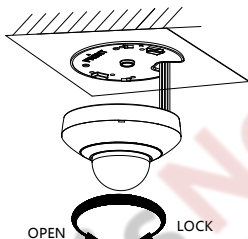

Figure 2-15 Fix the Camera
5. Align the camera with the installation plate, and rotate the camera clockwise to fix it, as shown in Figure 2-15.